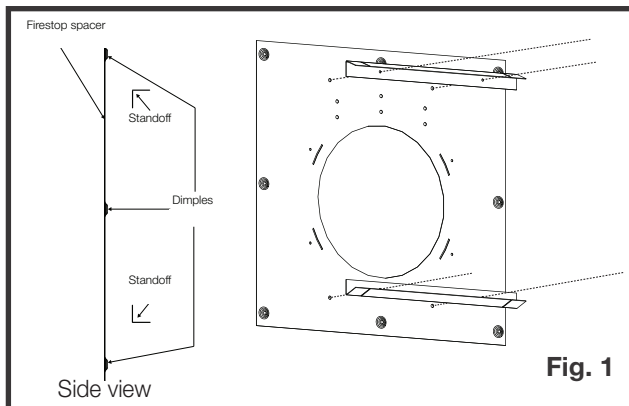

Fig. 1
1. Install standoffs onto the firestop spacer (**Fig. 1**).
1. Unscrew the fasteners on the vent shield assembly. DO NOT DISCARD FASTENERS (Fig. 1).